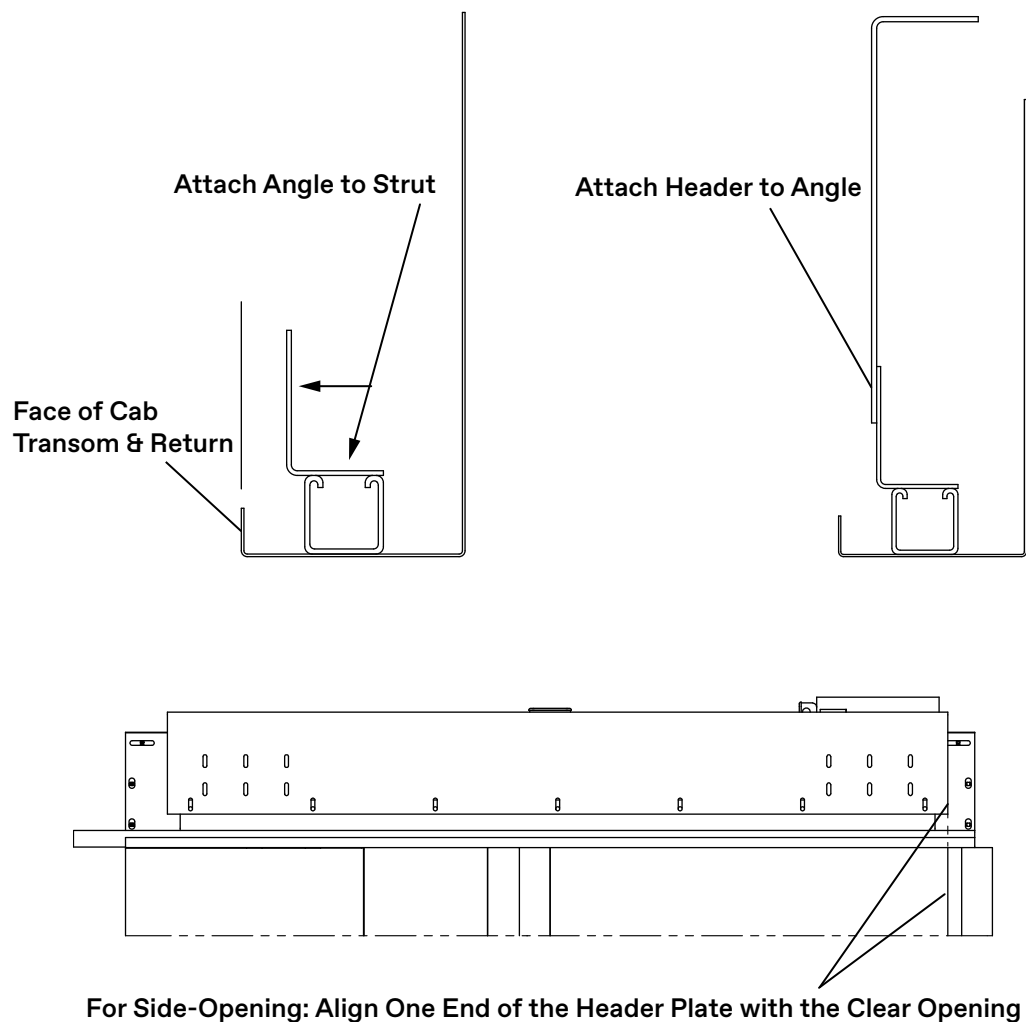

Figure 24 - Mounting Angles and Header Installation
3. Use the included hardware to install the door operator mounting angles to the strut. See Figure 24 on page 29.
4. Use the included hardware to install the door operator header to the mounting angle. See Figure 24 on page 29.